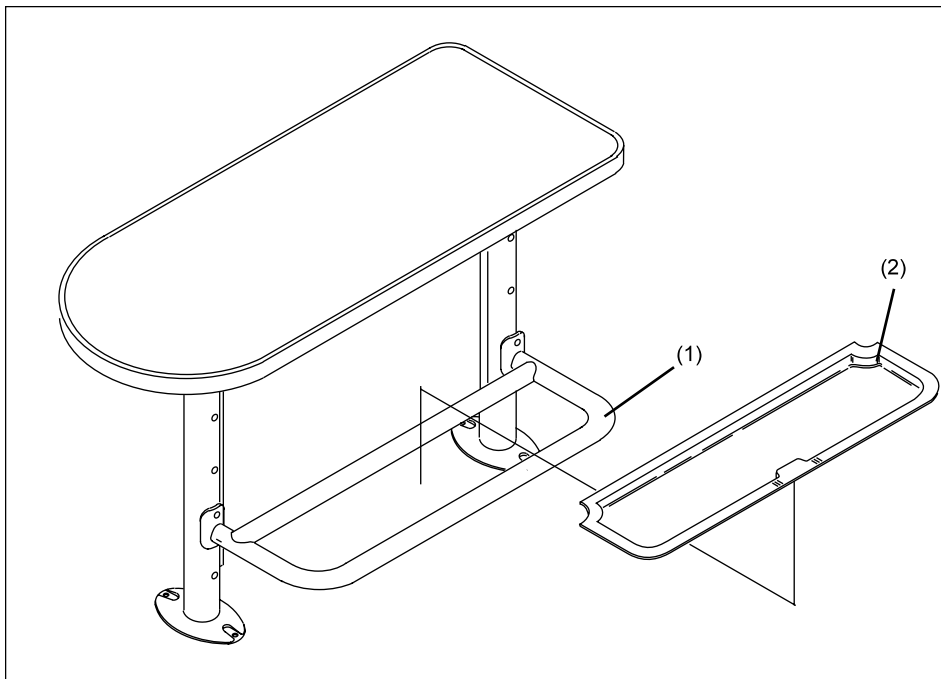

Figure 15. Snap Shelves Into Place
1. If the modular wall is to be as a storage rack, it will be necessary to install a shelf insert in each shelf assembly. The shelf insert is a snap in unit, no attaching hardware is required. Align the shelf insert with the opening in the shelf assembly and snap it into place. Refer to *Figure 15*.